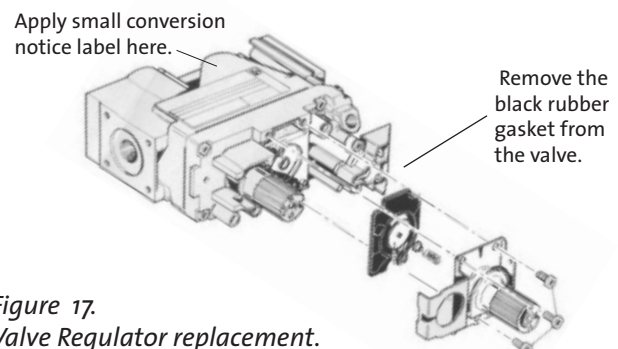

Figure 17. Valve Regulator replacement.
7. **Change the Regulator:** See Fig. 17.